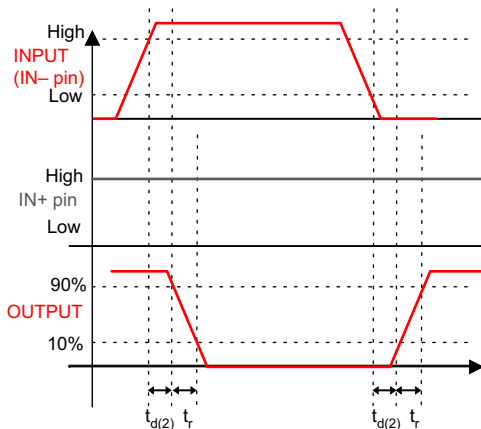
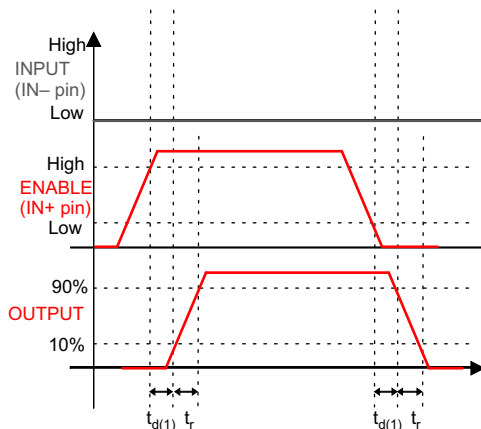
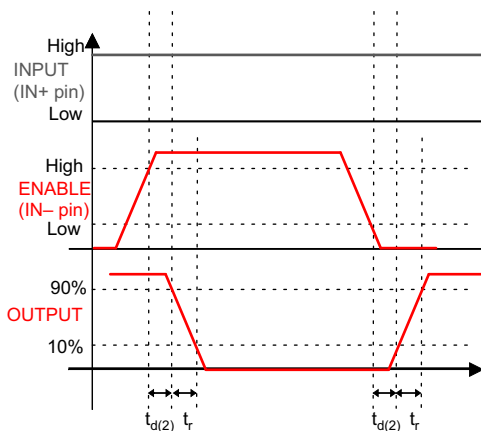

Figure 2. Inverting Configuration
Figure 3. Enable And Disable Function Using IN+ Pin
Figure 4. Enable and Disable Function Using IN- Pin
$V_{DD} = 12\text{ V}$, $T_A = T_J = -40^\circ\text{C}$ to 140°C , $1\text{-}\mu\text{F}$ capacitor from V_{DD} to GND. Currents are positive into, negative out of the specified terminal. See Figure 1, Figure 2, Figure 3, and Figure 4
(1) See timing diagrams in Figure 1, Figure 2, Figure 3, and Figure 4.